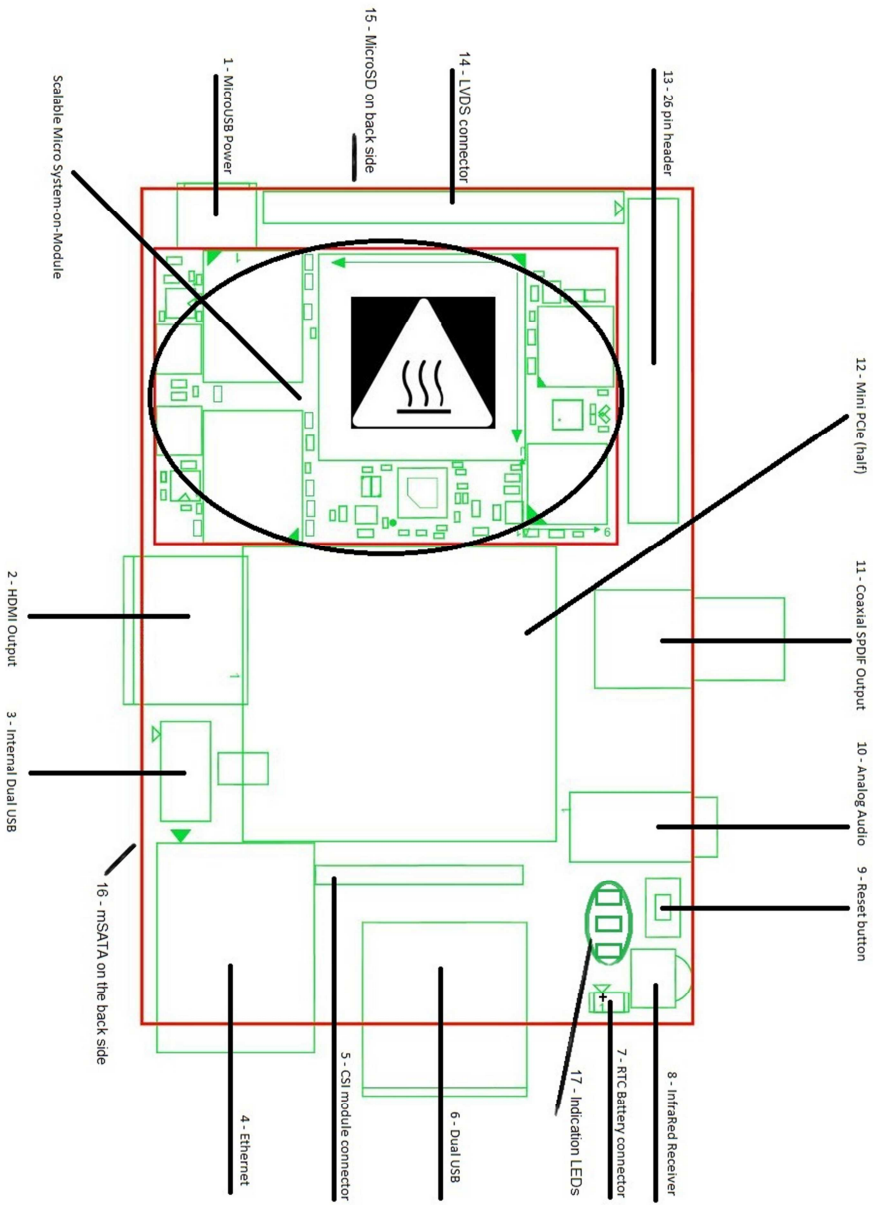

Figure 2 HummingBoard key features
- g) When installing RTC Backup battery, check for: Compatibility with NXP's PCF8523 specifications. Positive pin of battery is connected to pin 1 of the RTC Backup Battery connector (see figure 2). Battery's actual worst case temperature and withdraw current meet battery specification.
- i) Some surfaces of the device might reach high temperature when the device is under heavy work load. See figure 2, page 3